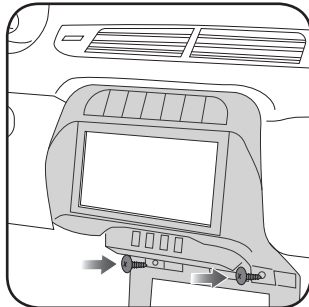

Fig. 2.4
8. Insert the radio into the dash and secure the metal brackets with (4) 7mm screws removed during disassembly.
10. Press the CAM1 bezel into place and secure it with the (2) 7mm screws. Test your installation before completely re-assembling the vehicle. (Fig. 2.4)